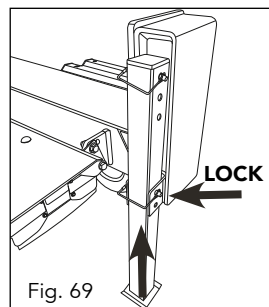

Fig. 69
4. Remove pin and raise the rear support leg (13) in the uppermost position. Refit the pin to lock in position (fig. 69).